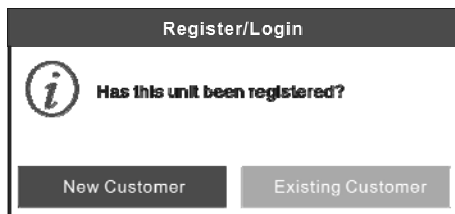

Fig. 4-2
A. If you are a new user, tap "New Customer" in Fig. 4-2 to start your sign-up.
B. If you have registered to be a member, tap “Existing Customer” in Fig. 4-2, a screen similar to the following appears: